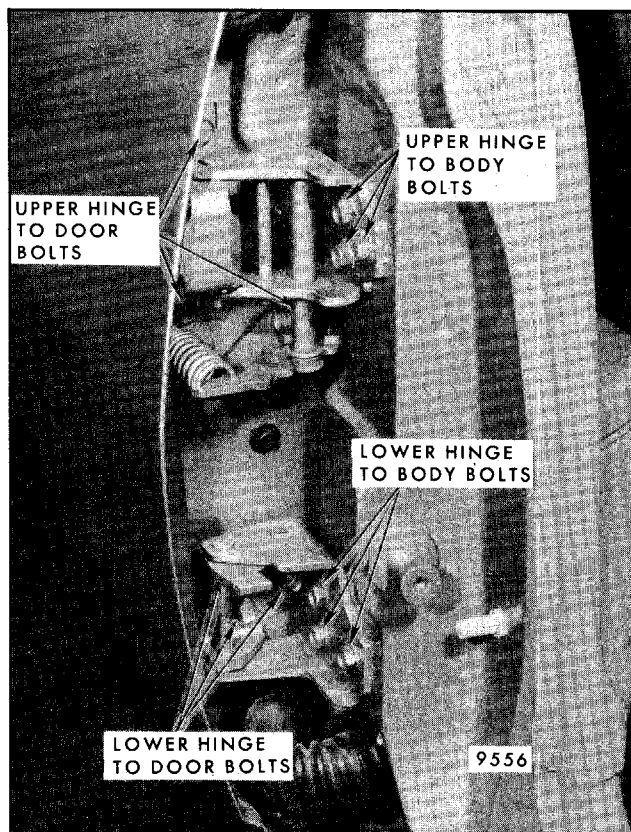

Fig. 5-140-Typical Rear Door Hinge Installation
3. With door properly supported, loosen upper and lower hinge attaching bolts from door or center pillar and remove door from body (Fig. 5-140).